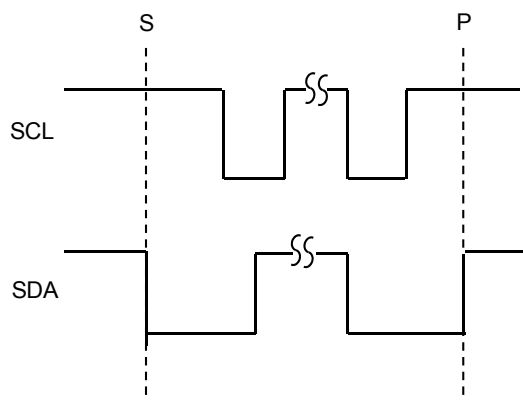

Figure 5. START and STOP Conditions
SDA and SCL idle high when the bus is not in use. A master initiates communication by issuing a START (S) condition. A START condition is a high-to-low transition on SDA with SCL high. A STOP (P) condition is a low to high transition on SDA while SCL is high (Figure 5). A START condition from the master signals the beginning of a transmission to the G1626. The master terminates transmission, and frees the bus, by issuing a STOP condition.